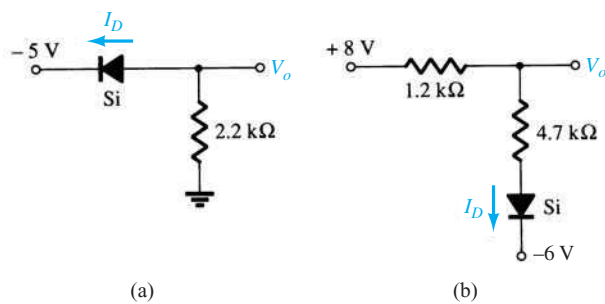

FIG. 2.156
6. Determine V_o and I_D for the networks of Fig. 2.156.